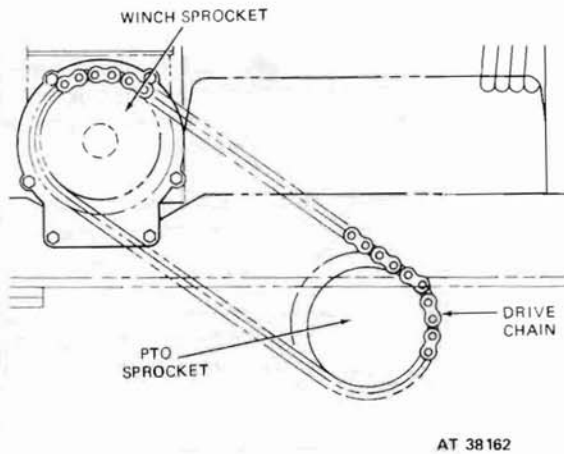

Figure 471. Rear winch drive chain.
b. **Drive Chain (Fig. 471).**
- (1) **Removal.** Remove the master link from the drive chain. Remove drive chain from the rear winch sprocket and transfer power take-off sprocket.
- (2) **Cleaning, Inspection and Repair.** Clean chain in an approved cleaning solvent (non-flammable, and non-toxic). Inspect the chain for cracked, broken or excessively worn links or pins. If unserviceable, replace the chain.
- (3) **Installation.**